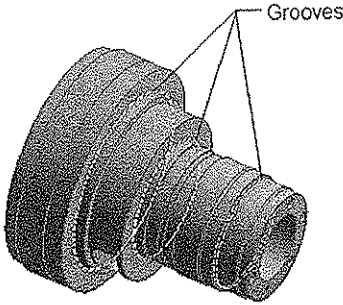

Figure 7-80 Grooves to be filled highlighted in green
- 47. Similarly, fill all the grooves in the cylindrical feature of the model, as shown in Figure 7-80.